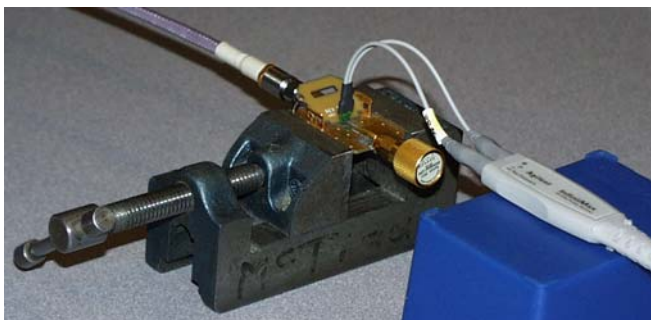

Figure 174 Setup for Measuring V_{out}
- 40 Connect the Calibration Standard load to PV/DS test board (non-pincher side) as shown in Figure 174.